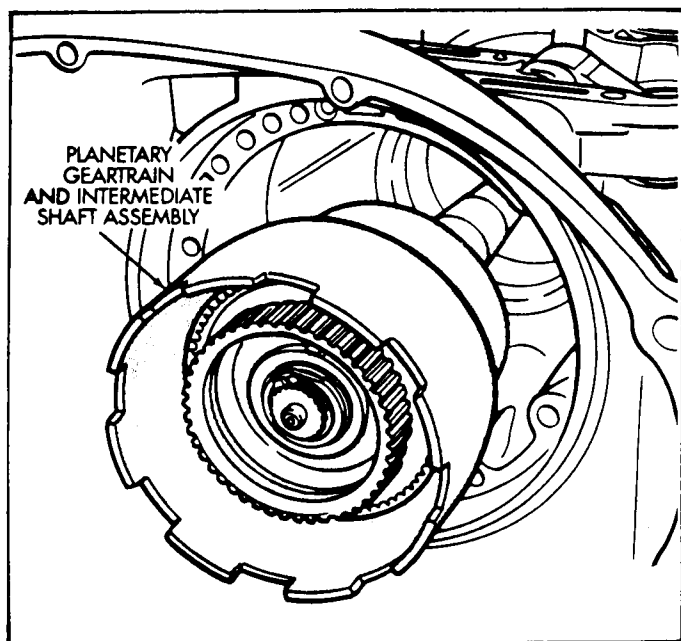

Figure 23
35. Remove the planetary gear train as an assembly as shown in Figure 23. Support the geartrain with both hands as you remove it, to ensure there is no damage done to the overdrive piston retainer.